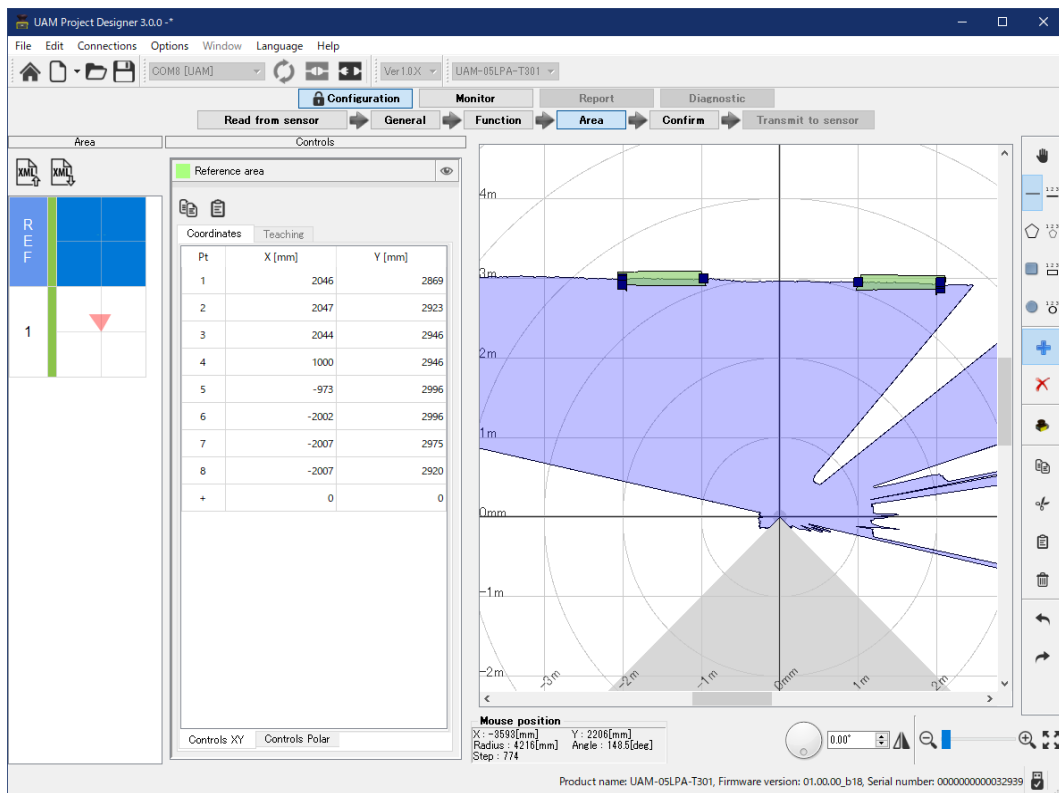

Figure 7-53 Reference region configuration example
- Main screen displays the configuration for reference region (Figure 7-53). First area on the preview indicated by “REF” represents the reference area.
For example, to monitor the sensor's displacement by referring the background, choose the line drawing tool and draw a line segment over the background by mouse drag and drop. Reference region with the \pm tolerance is generated on that location (Figure 7-53).